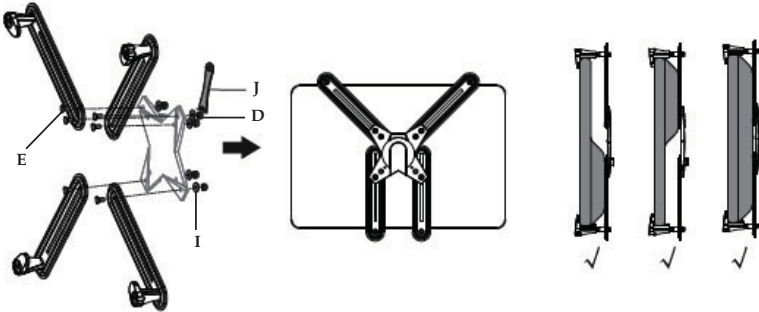

Figure 3
1. Use Bolt (E), Washer (I) with Nut (D) and tighten using Wrench (J), see Figure 3. **Note:** Do not fully tighten until instructed to do so in Step 3.